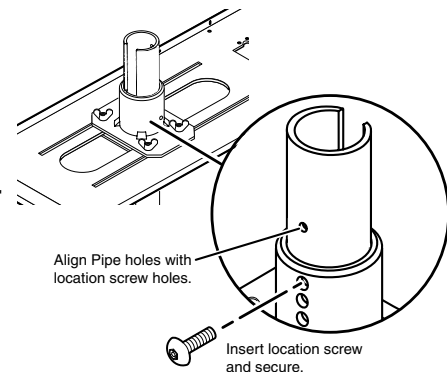

Figure 3 — Insert pipe into adapter
- Back out the Pipe Adapter set screws on the adapter plate. Slide the slotted pipe into the adapter, aligning the holes in the pipe with those in the adapter (see figure 3). Tighten the pipe location screw and the set screws to secure the pipe.